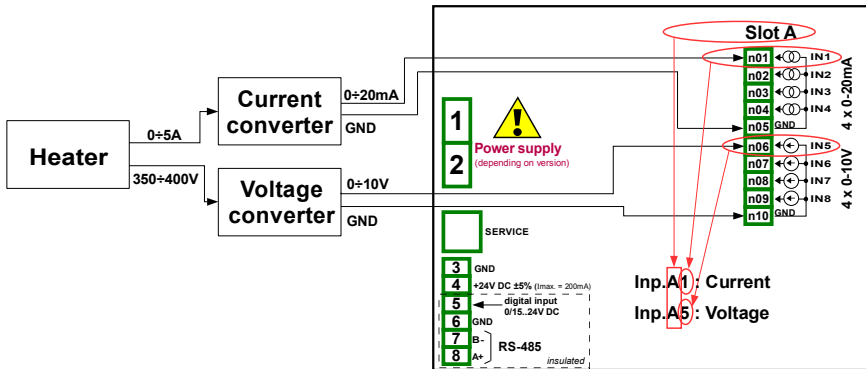

Fig. 7.51. Schematic diagram for the **UI4** module
Before configure the device, connect the heater to converters and then to the device (in accordance with Fig. 7.51).
- choose as the source - **Inp. A1: Current** (see the connection in Fig. 7.51), press the **Source configuration** button to set the source configuration options,
- choose as the source - **Inp. A5: Voltage** (see the connection in Fig. 7.51), press the **Source configuration** button to set the source configuration options,